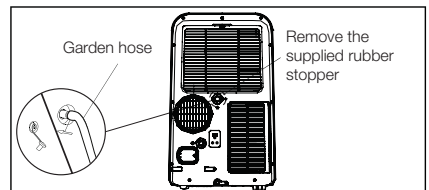

Fig. 25
1. During the dehumidifying mode, you will need a garden hose (sold separately) to drain the condensate from the unit. Remove the rubber stopper from the hose connector, then screw on a garden hose to the connector as shown on Fig.25.